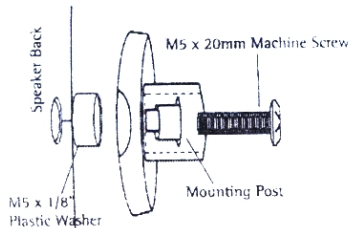

Figure 1
1. Most satellite speakers will require the use of the M5 x 20mm machine screw used in combination with the M5 x 1/8" plastic washer. The plastic washer is used as a spacer between the threaded insert and the post (Figure 1).